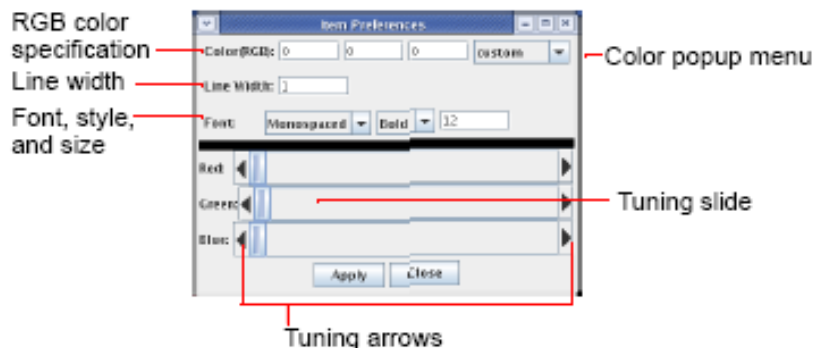

Figure 47 Item preferences window
Change the size and color of objects in a region with the **Item Preferences** window, shown in Figure 47.
- 2 Click the text input tool  to open the **Text Input** window shown in Figure 47.